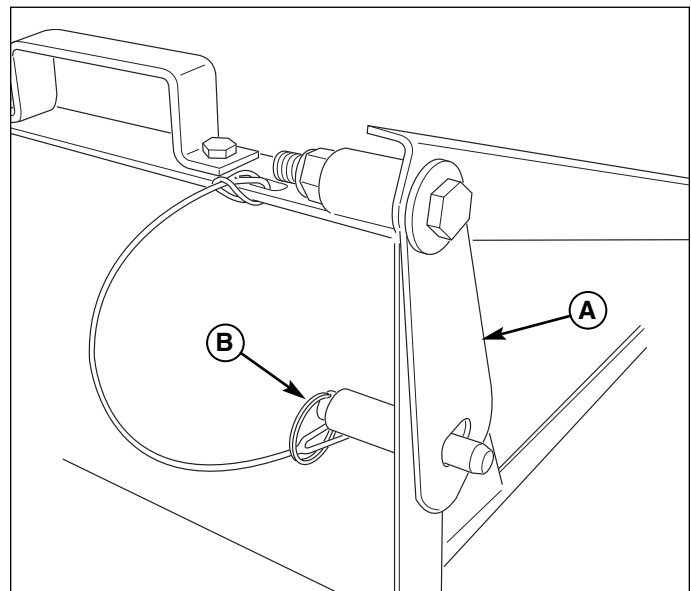

Figure 26. Lock Hood
2. Lower the hood and push the lock pin (B, Figure 26) through the hood lock plate (A).